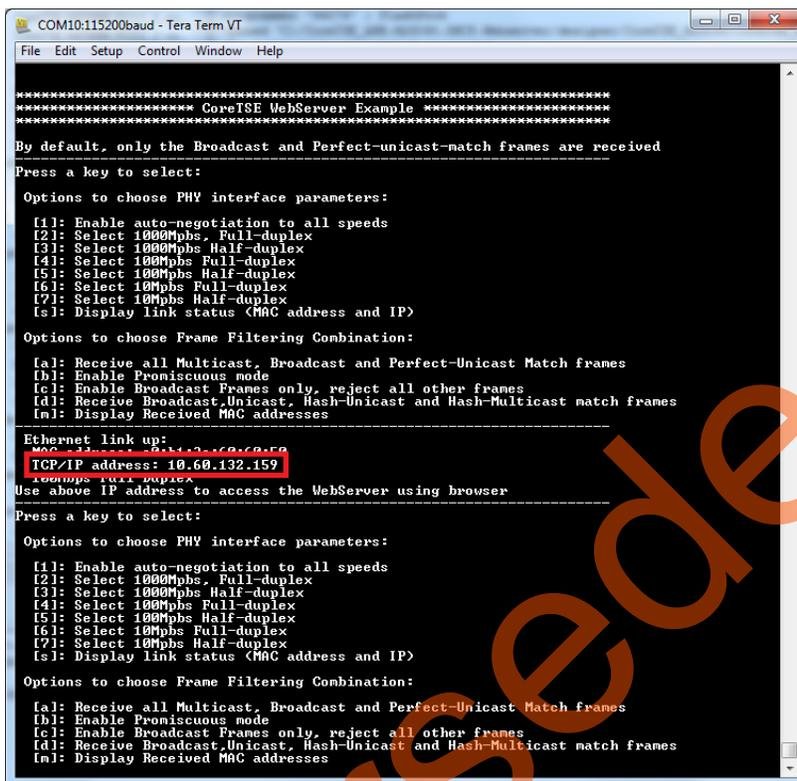

Figure 12 • HyperTerminal with IP Address
11. Press “s” on the keyboard till the IP address is displayed, as shown in Figure 12.